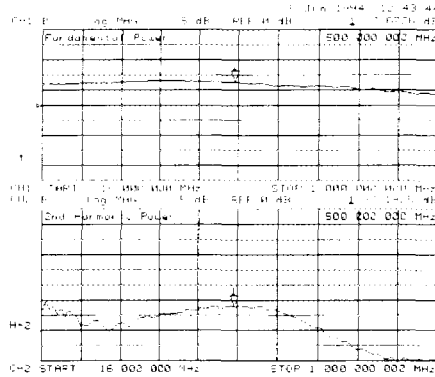

Figure 4-34. Fundamental and 2nd Harmonic Power Levels in dBm
- 9 Press SYSTEM, HARMONIC MEAS, SECOND. You can view both the fundamental power and harmonic power levels at the same time. Refer to Figure 4-34.